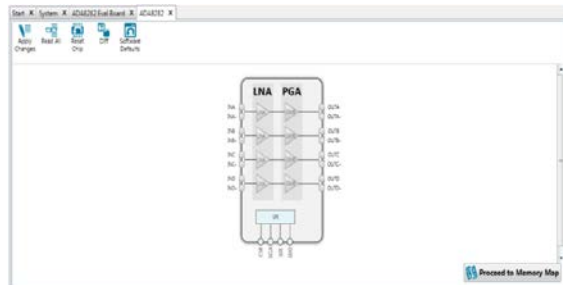

Figure 5. ADA8282 ACE Chip View
8. Double-click the ADA8282 component on the board to navigate to the chip view (see Figure 5). Click the tabs to select a previous or different view.
The memory map for the ADA8282 can be accessed by clicking the **Proceed to Memory Map** found on the lower right portion of the chip view (see Figure 5). The memory map view can show either the register fields or the bit fields of the device.